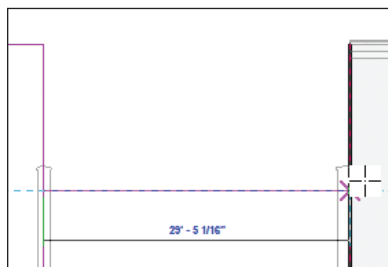

FIGURE 3.44 Drawing the line from the left wall to the right
8. Draw the line to the right until you intersect with the side of the wall to the right, as shown in Figure 3.44.
9. When you see the intersection snap show up, pick this point (see Figure 3.44).